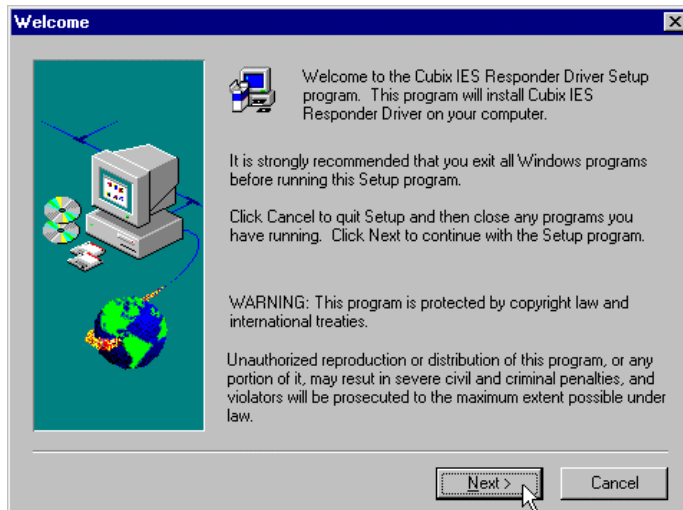

Figure 43 – IES Responder Installation Welcome dialog box
18. A standard **INSTALLSHIELD® WIZARD WELCOME** dialog box appears next. This gives copyright information and a warning to exit all programs while installing **the IES RESPONDER**. Click **NEXT** to continue installation. See Figure 43.